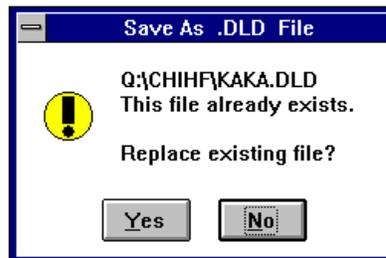

Figure 3-9. File Overwrite Dialog Box
- **Read & Save** – Reads the chip program and writes it into the specified JEDEC file. The file name must be specified. If the file name already exists, a dialog box appears (Figure 3-9) asking if you want to overwrite the existing file.